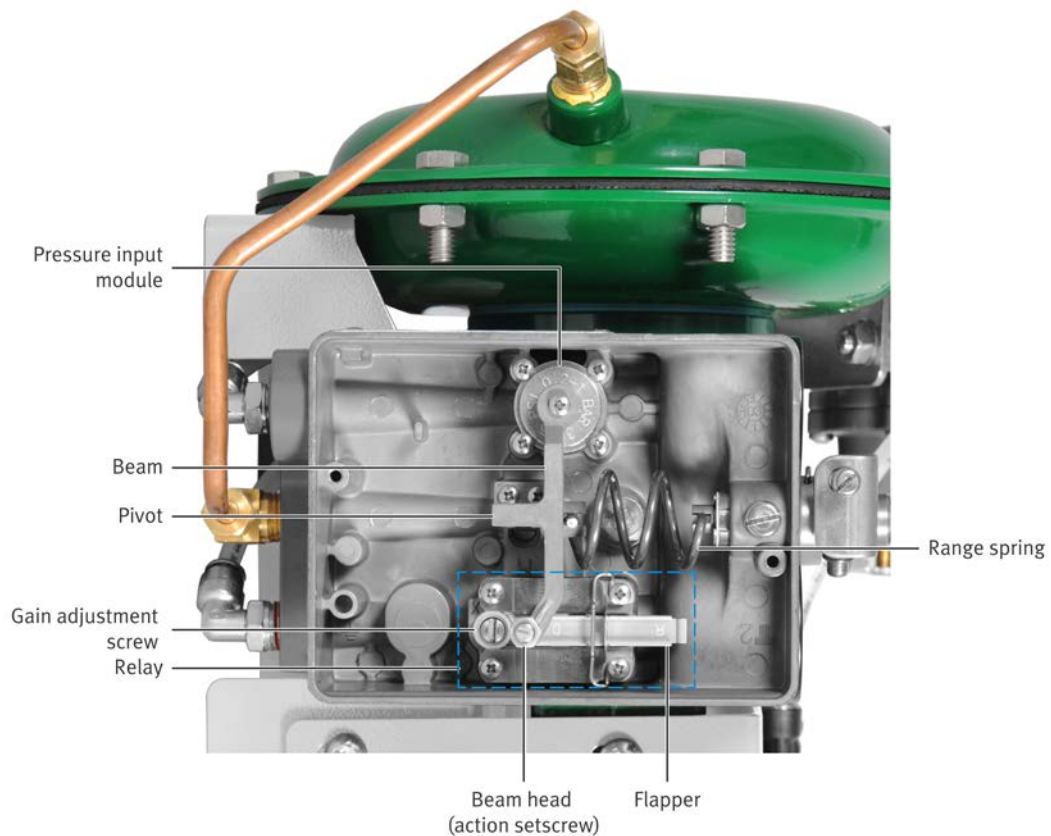

Figure 17: Internal view of the positioner.
The most important aspect of a positioner comes from the fact it uses feedback to match the actual position of the stem with the desired position. This is performed by another part of the mechanism shown in Figure 17 which couples to the beam and adds its effect to the overall action. A feedback lever is attached to a plate which follows the travel of the stem at all times. The lever transmits a torque to the range spring which is then relayed to the beam. This torque is proportional to the error between the displacement of the stem and its desired position, and it acts to force the stem towards the set point.
2. Remove the cover of the positioner. Make sure the flapper is positioned so that the engraved letter "D" for direct (not "R" for reverse) is nearest the action setscrew (See Figure 17). With the action set to direct, the pressure output of the positioner increases as the 4-20 mA signal sent to the valve increases. It is the only mode of action supported on this model.
3. Locate the gain adjustment screw, which is next to the action setscrew (see Figure 17). Turn the gain adjustment screw fully clockwise (without forcing the screw!), then turn it three turns counterclockwise. This sets a gain which is typically adequate for most setups.